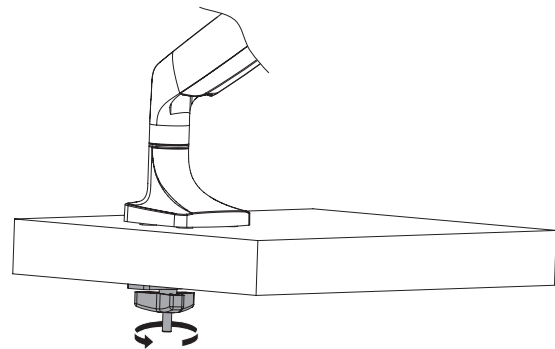

Figure 8
5. Tighten the grommet mount to the desktop by turning the Wing Nut (J) clockwise, see Figure 8.